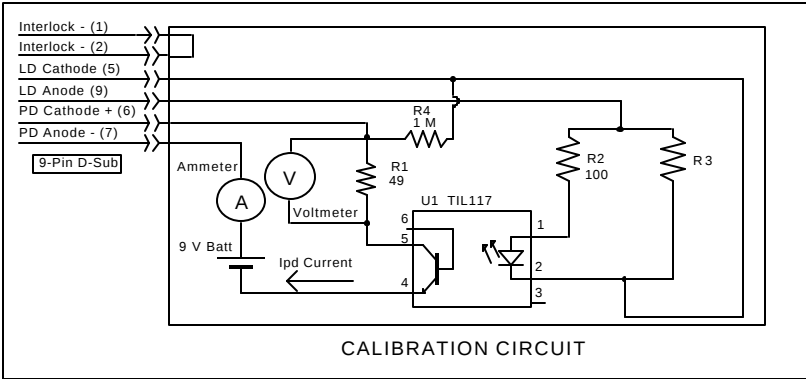

Figure 5.1 I_{PD} Calibration Circuit
It will be necessary to connect various loads and circuits to the outputs of the module for the calibration procedure. The devices required for most of the calibration loads are listed in Table 5.2. A schematic is shown in Figure 5.1 for the photodiode calibration circuit, with the required components listed in Table 5.3.
PHOTODIODE MONITOR CURRENT CALIBRATION (See schematic in Fig. 5.1)
- a. With the output off, connect the IPD calibration circuit, Figure 5.1, to the laser connector.
- b. Connect an ammeter with at least 5000 μA range and at least $\pm 0.1 \mu A$ accuracy as shown in Figure 5.1. This ammeter is in series with the Photodiode Anode input to the module, and directly measures the photodiode current.